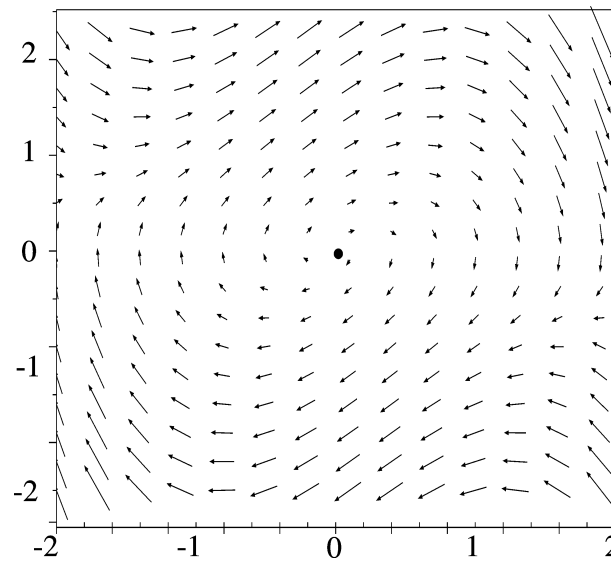

Figure 3.7: Vector field associated with the Van der Pol system
- 3) The vector field associated with this system is represented on Figure 3.7 in the state space  $(x_1, x_2)$ . We initialize the system in  $\mathbf{x}_0 = (0.1, 0)$ . Draw on the figure the path  $\mathbf{x}(t)$  of the system on the state space. Give the form of  $y(t)$ .